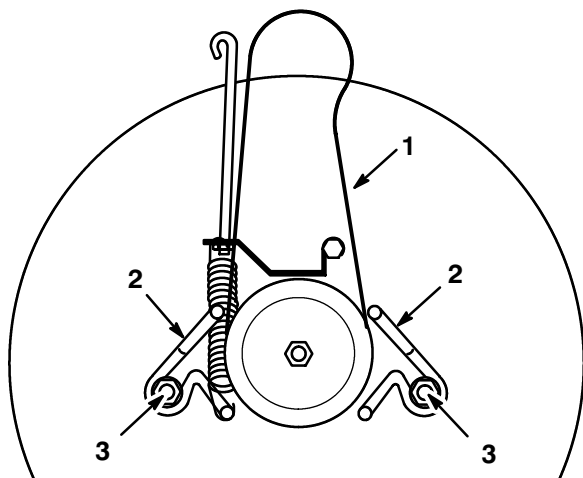

Figure 43
2. Loosen the belt guide mounting bolts and move the belt guides away from the pulley (Fig. 43).
1. Install the new belt around the blade pulley and inside both of the belt guides (Fig. 43).
2. Adjust the belt guides so they are 1/8 in. (3 mm) away from the pulley. Tighten the mounting bolts (Fig. 43).